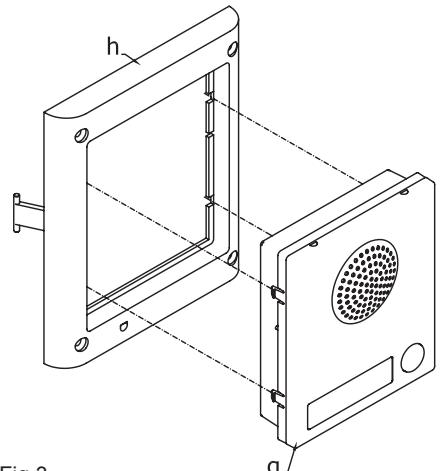

Fig.3
3. Hook the module g in the support frame has shown in figure 3;